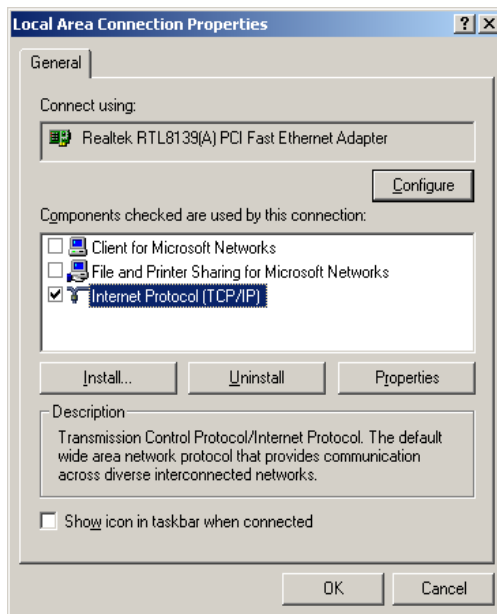

Figure 3. The Local Area Connection Properties dialog box.
- The Local Area Connection Properties window is displayed. Select the "Internet Protocol (TCP/IP)" component (Figure 3) and click the "Properties" button.